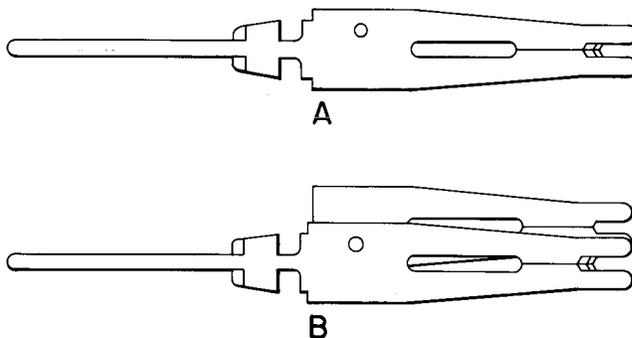

Fig. 1—Replacement Terminals
1.03 The procedures apply to 66-type connecting blocks arranged with single- or twin-clip terminals. The single-clip terminal used on the 66G-type connecting block is illustrated in A, Fig. 1. The twin-clip terminal used on the 66H-type connecting block is illustrated in B, Fig. 1.
- (a) Select the proper replacement terminal (Fig. 1).